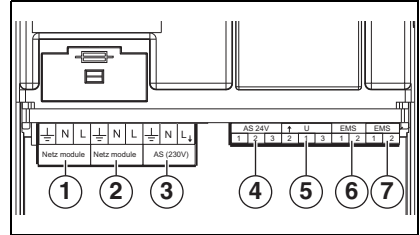
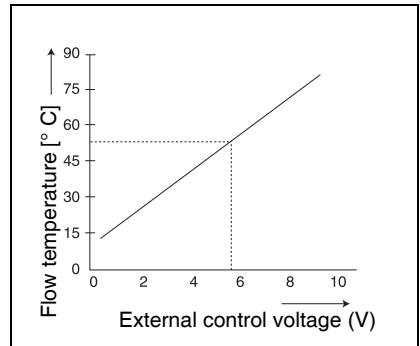

fig. 2 Connections
fig. 3 0 – 10 V diagram
- a) The AS 24 V connection (→ fig. 2, [4]), this is a potential-free switching contact for low voltage signals of up to 24 V. This malfunction signal can for example, be evaluated by a building management system.
- b) The AS 230 V connection (→ fig. 2, [3]), this can for example operate a horn or warning light. In case of a malfunction, there will be 230 VAC on this connection.
The EM10 can be used as an interface between the boiler and, for example, a building management system. With the 0-10 V DC signal (→ fig. 2, [5]), the flow temperature or the power of the boiler can be controlled (→ fig. 3).
This control is activated if pins 1 and 3 are bridged (→ fig. 2, [5] and the wiring diagram on page 47). The EM10 transfers the 0-10 V signal to a power setpoint. This is a linear ratio, → table 2.